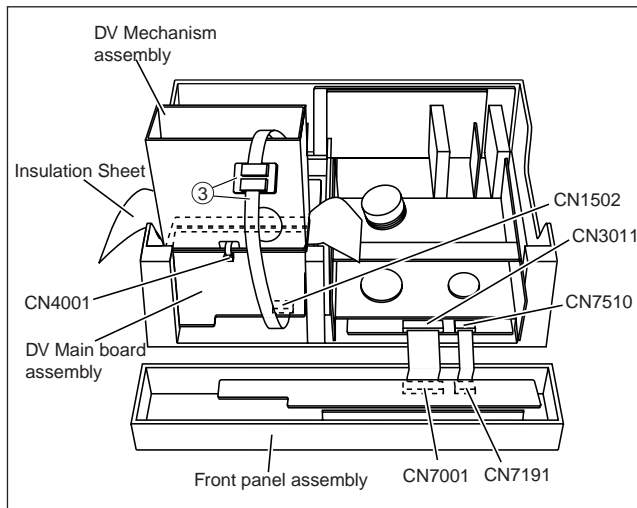

Fig. 1-8-3
- (4) Connect PATCH CORD to the connector(CN1502) and connect FPC from DV Mechanism assembly.(refer to Fig. 1-8-3)
- (5) Connect other FPCs and wires to the connector that corresponds each.(refer to "1-7 CONNECTION")